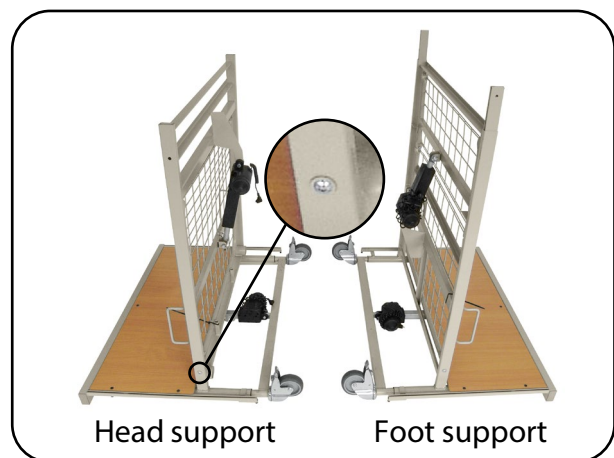

Fig. 6.1.02 – Stand parts with bed surface halves
2. Slide both halves of the bed surface onto the bed surface adapters of the stand parts. Ensure the correct position of the bed surface halves in doing so. Now screw the two connection points (Fig. 6.1.02) tight using two flat-head screws with collar on each and the Allen key (5 mm).